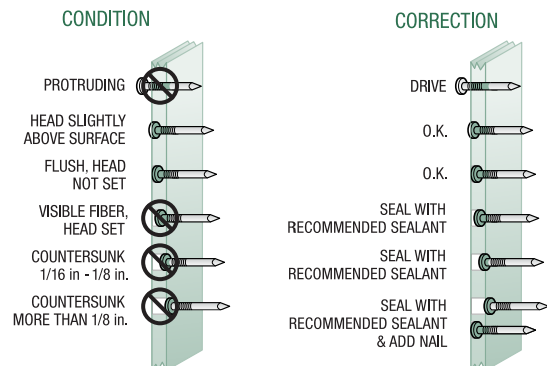

FIG. 1
- Nails must penetrate wood framing 1-1/2 in. See Fig 1.
- Avoid countersinking nails or rupturing the surface of the siding. If countersink occurs, seal nail prior to painting. See Fig 1.
- Seal around all openings such as window and door frames and at butt joints. Seal all overdriven nails. *See Fig 1.*